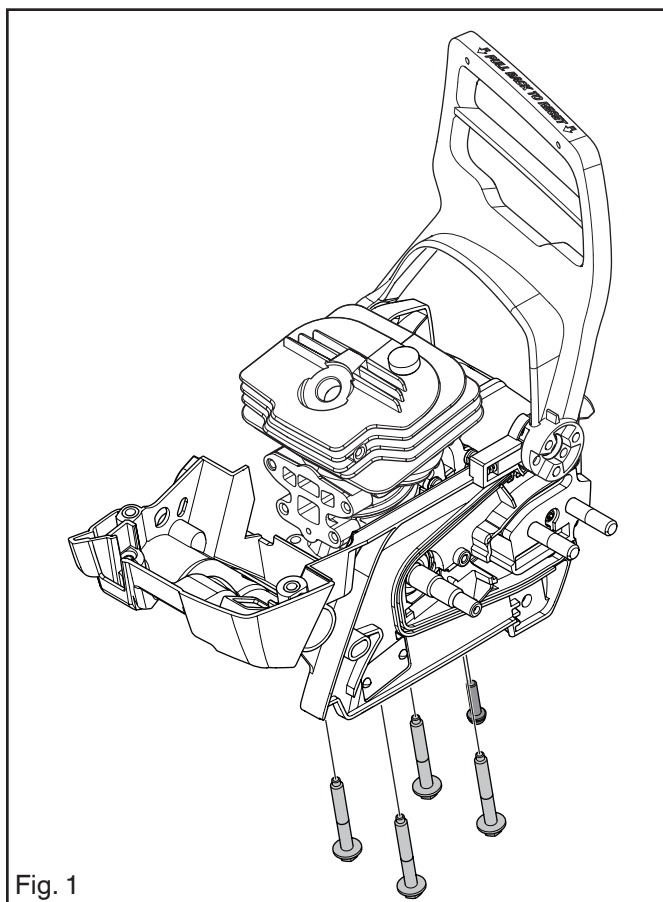

Fig. 1
6. Remove the five screws holding the crankcase to the cylinder. See Figure 1.